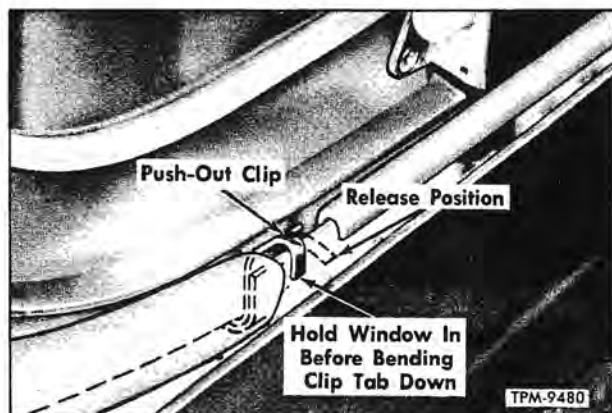

Figure 7—Emergency Escape Push-Out Clip Installed
Window is retained in closed position by bent-down tangs of two push-out clips at bottom of windows (fig. 7). Clips of U-shape construction are inserted over channel rail of window and tangs of clips are then bent down over body panel flange when window is held in closed position.
3. Locate new push-out clips to bottom of window frame, then slide front and rear sections to center (fig. 8). Raise bottom of window at point "A," then let weight of window assembly rest on window opening sill (fig. 8). Inside of coach, at points "B," pull window inward evenly to retain window in completely closed position. While holding window in closed position have assistant bend tangs of push-out clips downward as shown in figure 7.